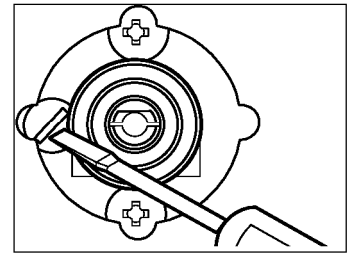

Figure 15
4. Remove the knob of the thermostat. Insert a screwdriver on the proper screw (**Fig. 15**): turn anticlockwise to increase the minimum, clockwise to decrease it. The flame must be steady and homogeneous.